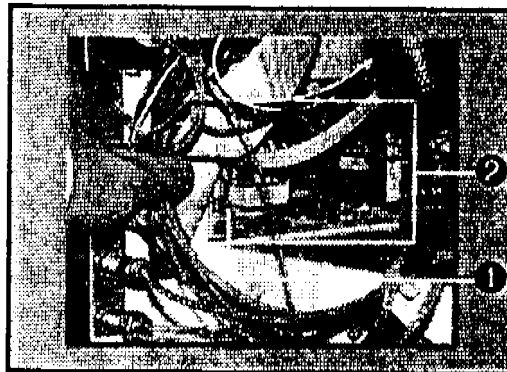

Figure 4.4.2
4. Carefully remove the 1A 250V standard fuse (❶, Figure 4.4.2) from the power supply (❷) located at location FS1.